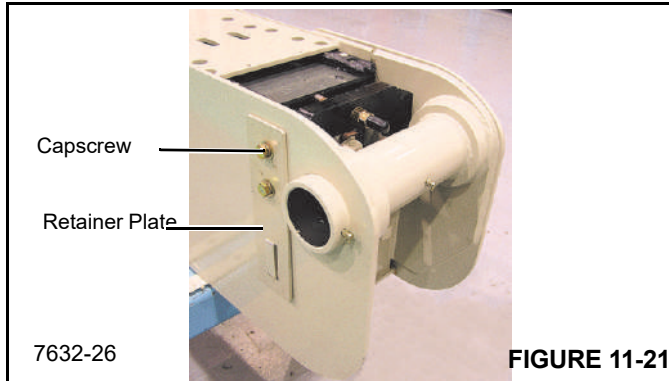

FIGURE 11-21
9. Install the retainer plates and capscrews to secure anchor plate to the outside of the base section (Figure 11-21).